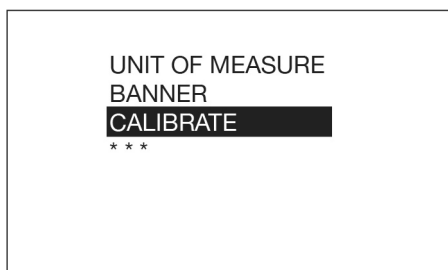
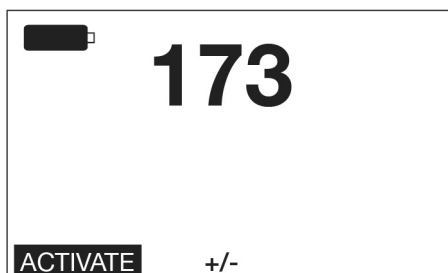

FIG. 13
FIG. 14
4. Select the CALIBRATE option (Fig. 13) to display the calibration K-Factor screen shown in Fig. 14.
5. The calibration K-Factor screen shown in Fig. 14 displays.